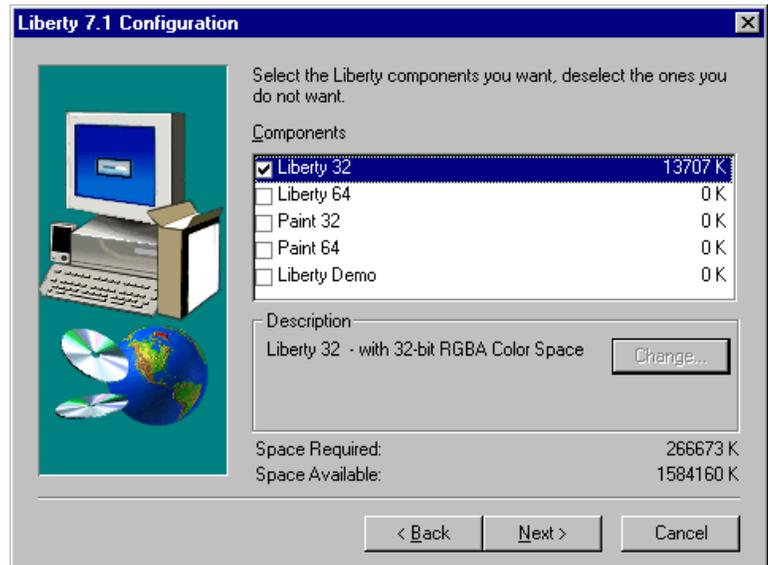

Figure 2-5. Compact/Complete Set-up Selections
- **Compact** (Figure 2-5): Installs Liberty Executables and required program files, without installing Samples or Tutorials.
- **Complete** (Figure 2-5): Installs Liberty Executables and required program files, Samples, and Tutorials. Recommended for new users.